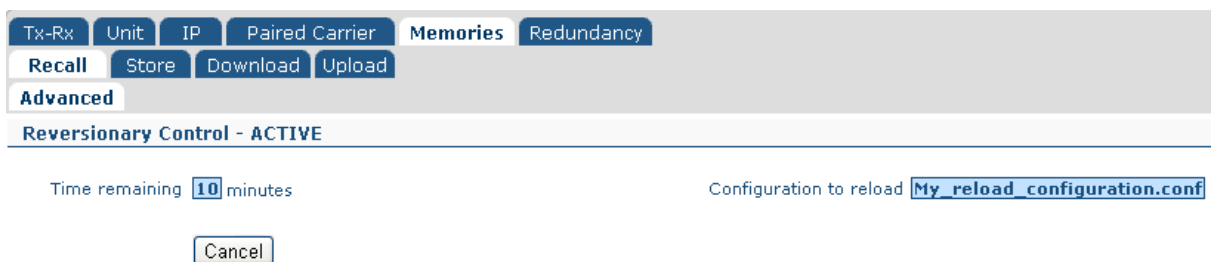

Figure 6-30 Edit->Memories->Advanced Reversionary Control Screen (Active state)
4. Click on the *Reload* button to start the timeout period, at which point the screen will change to that shown in **Figure 6-30**, which shows the remaining timeout period along with the name of the configuration memory that will be reloaded. In addition, the *Reload* button changes to a *Cancel* button.